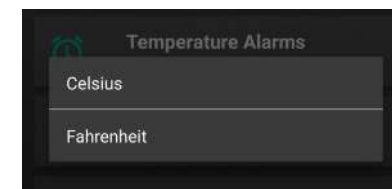

Fig. 6
- b. Temperature Scale – Choose between Celsius and Fahrenheit temperature measurements (See Fig. 6).